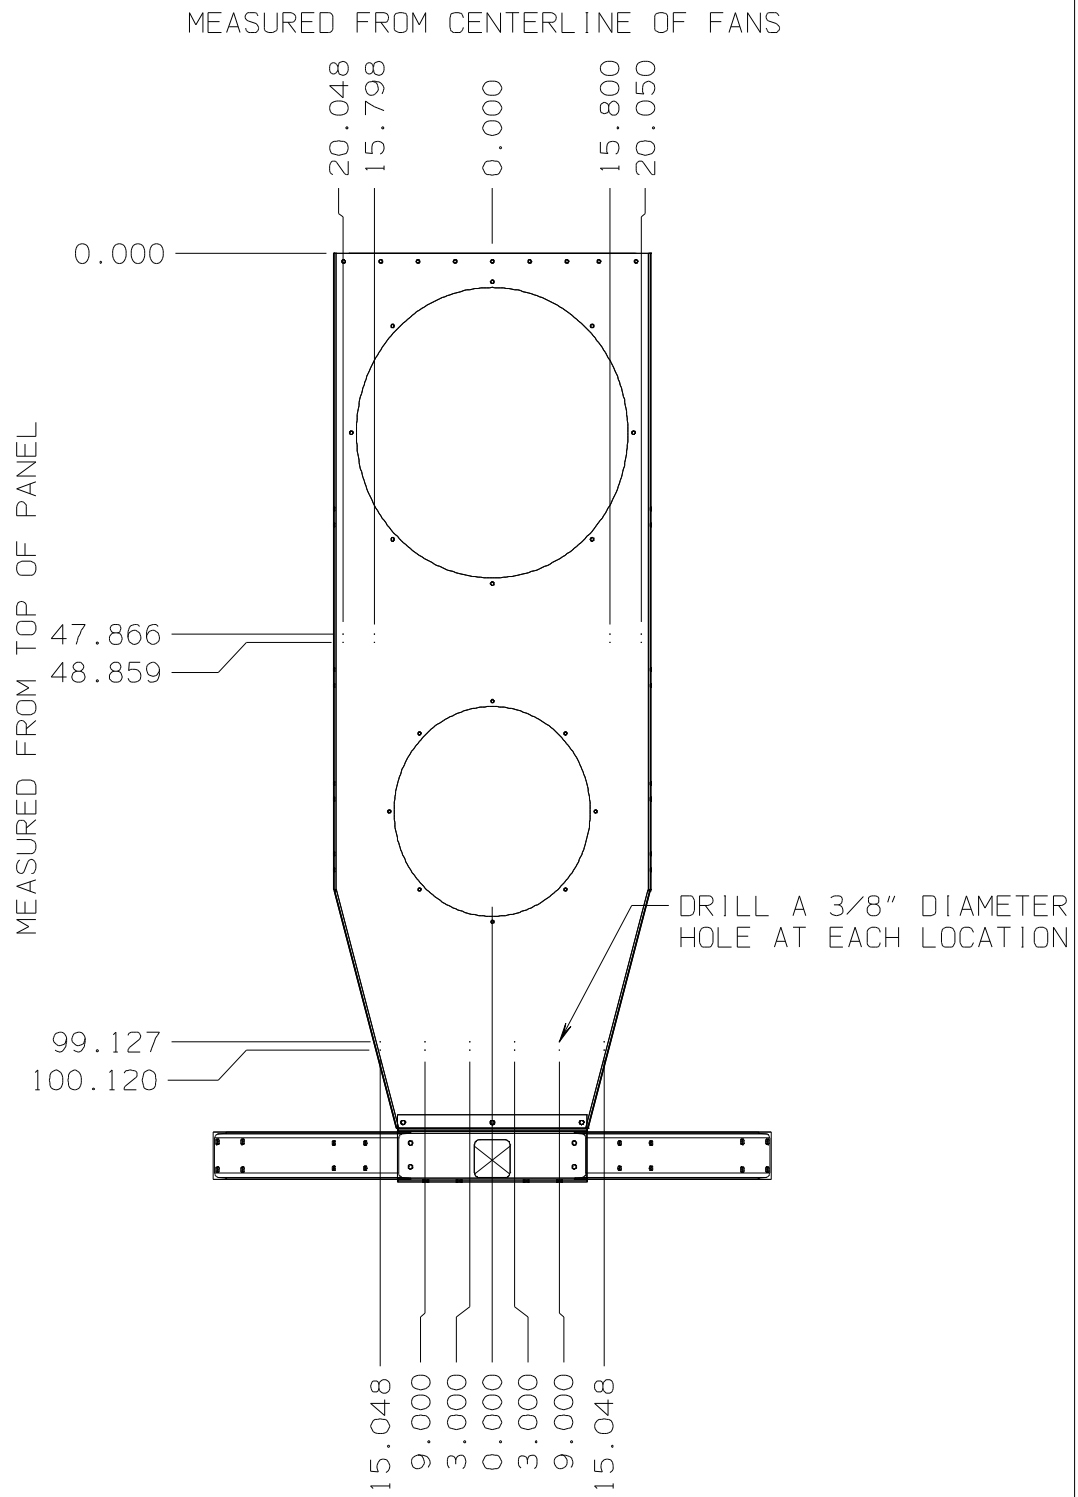

FIGURE 1
2. Drill (1) - 3/8" diameter hole in the locations specified by FIGURE 1, 2, OR 3 depending dryer model. These holes are used to mount the framework to the fan support.
4. Attach (1) - *FRONT/BACK FRAME "C" CHANNEL (D01-0719)* to the bottom of the fan support at the group of 3/8" holes drilled in step 2.